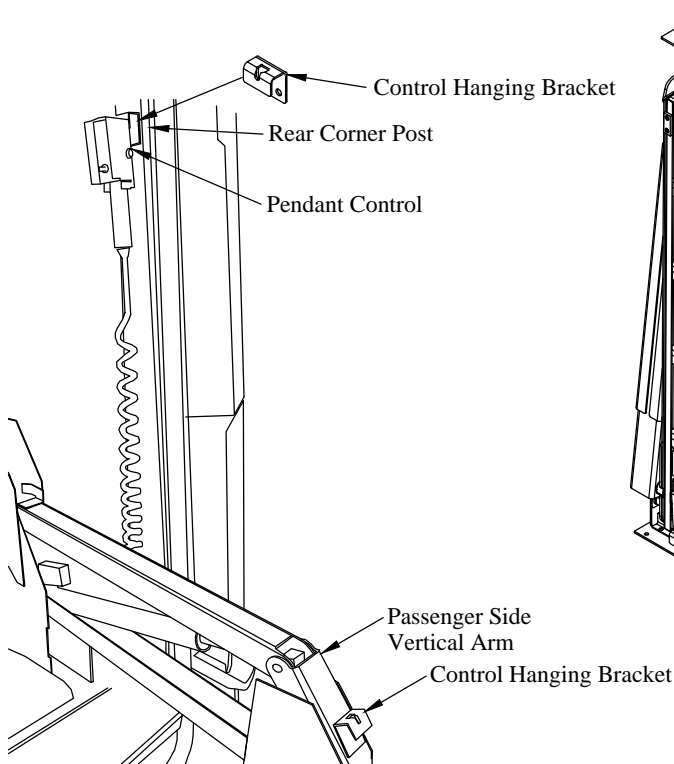

Figure 19: Control Hanging Brackets.
7. **Select** a location to install the control hanging bracket. Use a location on the passenger side rear corner post of the van at a height that allows the entire pendant cord to be completely inside the van when stored (Figure 19).
12. **Install** second control hanging bracket with supplied 3/8" bolts on the passenger side vertical arm where the lifting angle was removed (Figure 19).